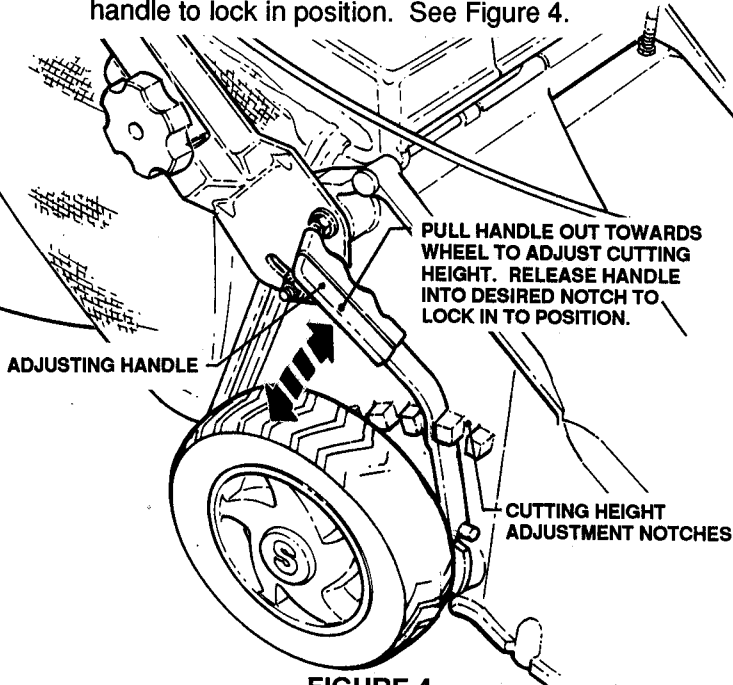

FIGURE 4
1. Pull ADJUSTING HANDLE out towards the wheel and move to desired notch. Release handle to lock in position. See Figure 4.